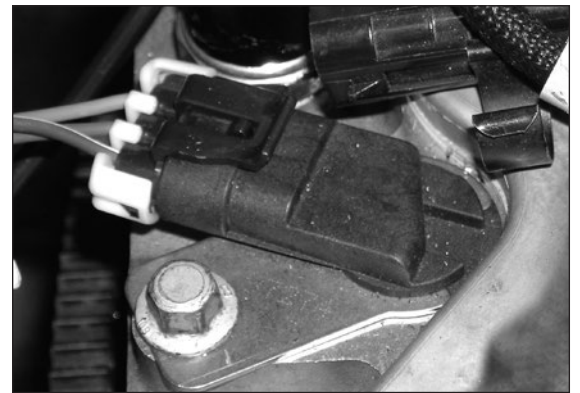

Figure 4 - LS1 Camshaft Position Sensor
4. Locate the Camshaft Position Sensor connector. On LS1/LS2 engines, connect this to the Camshaft Position Sensor located at the rear/top of the block. This is where the distributor would be mounted on an early small block Chevrolet engine (**See Figure 4**). L92/LS3 Engines route this line to the driver side front of the engine and connect to the Camshaft Position Sensor.